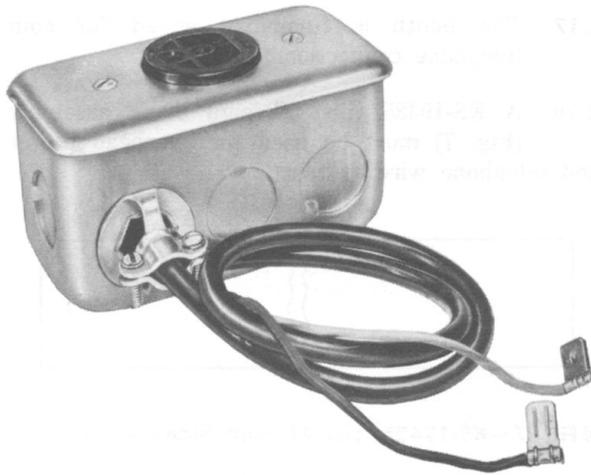

Fig. 2—KS-19580, List 51 Receptacle Assembly
2.07 In multiple installations, a KS-19580, List 51 receptacle assembly (Fig. 2) must be used in conjunction with a KS-19261, List 1 light control unit as follows: